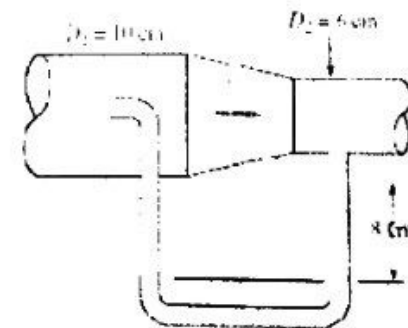

Fig. 2
8. (a) In Fig.2 the flowing fluid is CO_2 at 20°C . Neglect losses. If $P_1 = 170 \text{ kPa}$ and the manometer fluid is Meriam red oil ($\text{SG} = 0.827$), estimate (a) p^2 and (b) the gas flow rate in m^3/h . 8